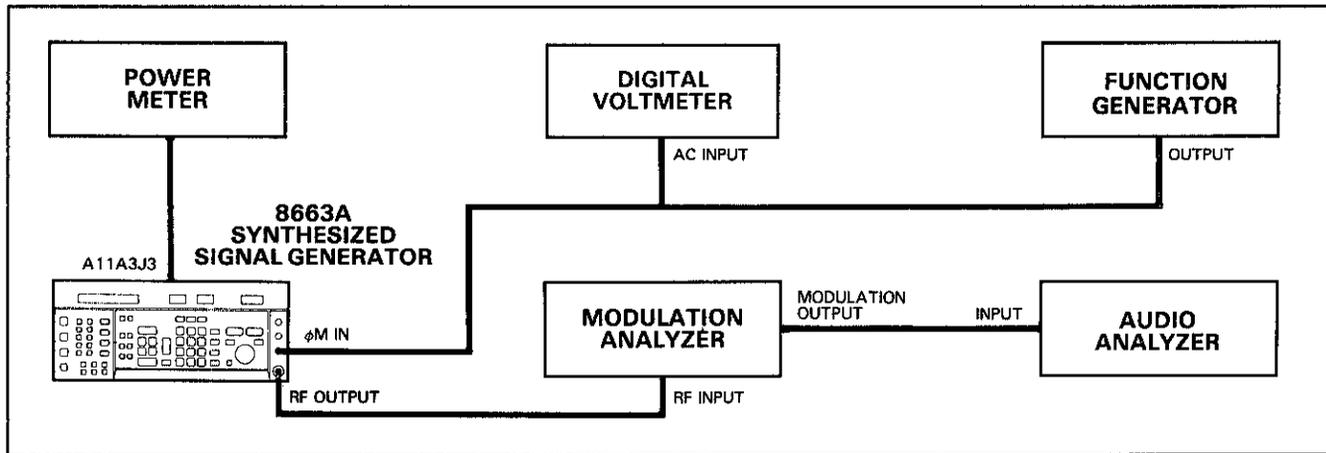

Figure 5-25. Phase Modulation Adjustment Setup.
- Connect the equipment as shown in Figure 5-25 and set the 8663A RF frequency to 50 MHz, RF amplitude to +5 dBm, select phase modulation, 100 degrees, and 50 ohm input impedance (Special Function 70) and EXT AC modulation.